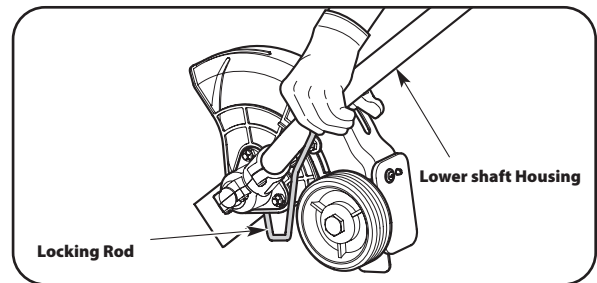

Figure 4
3. While holding the locking rod, loosen the lock nut by turning it clock wise with a 13 mm wrench. See Figure 4.